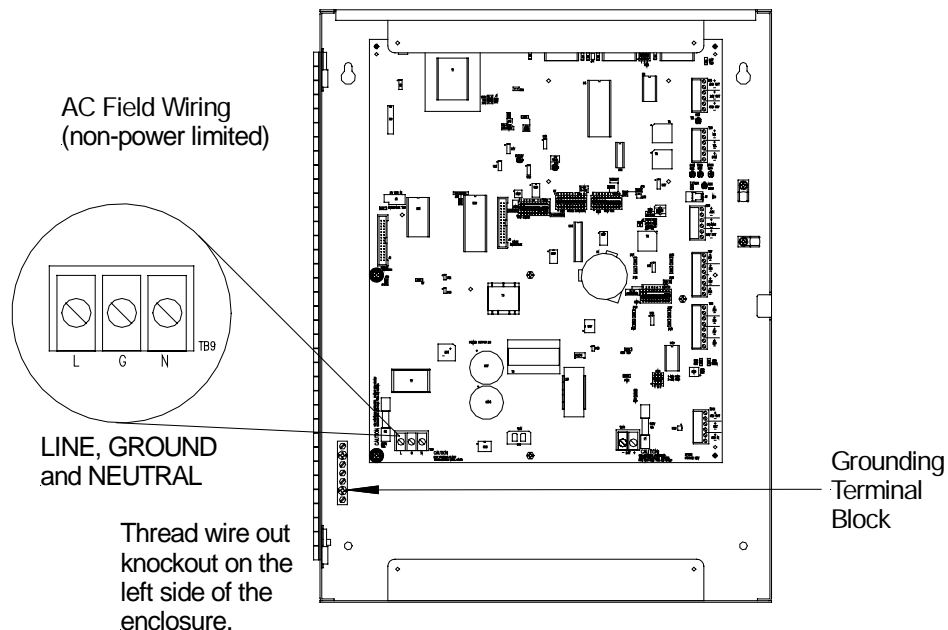

Figure 4-13 120VAC Input Connection
1. Refer to Figure 4-13) and connect the line and neutral 120VAC input wiring to the L (Line) and N (Neutral) terminals on the terminal block TB9 (see Figure 4-1 for location) in the lower left corner of the chassis.